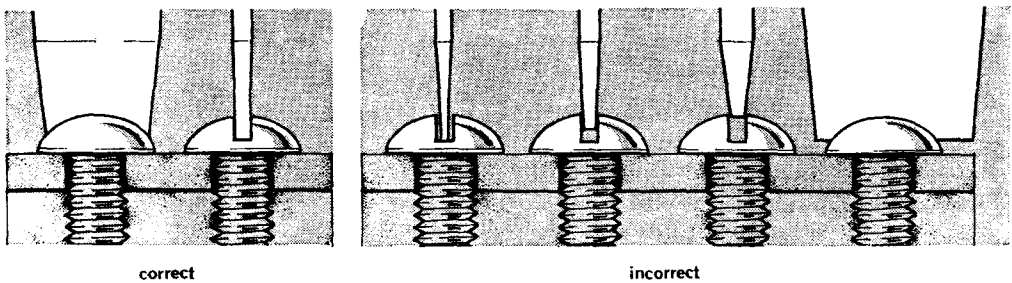

Fig. 3 Choice of screwdriver
3. The size of screwdriver used should be carefully chosen to suit the job. The working end of the blade should be ground flat to prevent slipping and should be a good fit in the screw slot (Fig. 3). To adjust preset potentiometers a good tradesman will select an insulated screwdriver which fits exactly and will not use it for any other work, thus minimizing wear on the equipment resulting from routine alignment.